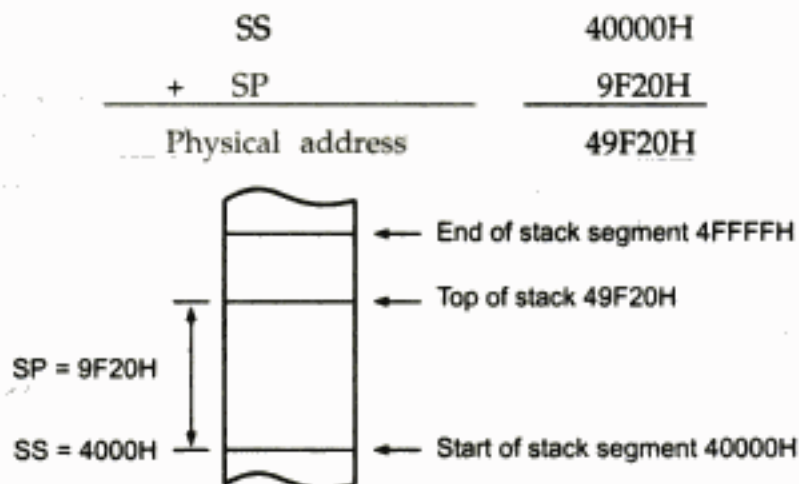

Fig. 2.9 Stack and stack pointer
Stack Pointer (SP) : The stack pointer (SP) register contains the 16-bit offset from the start of the segment to the top of stack. For stack operation, physical address is produced by adding the contents of stack pointer register to the segment base address in SS. To do this the contents of the stack segment register are shifted four bits left and the contents of SP are added to the shifted result. If the contents of SP are 9F20H and SS are 4000H then the physical address is calculated as follows. (Refer Fig. 2.9)